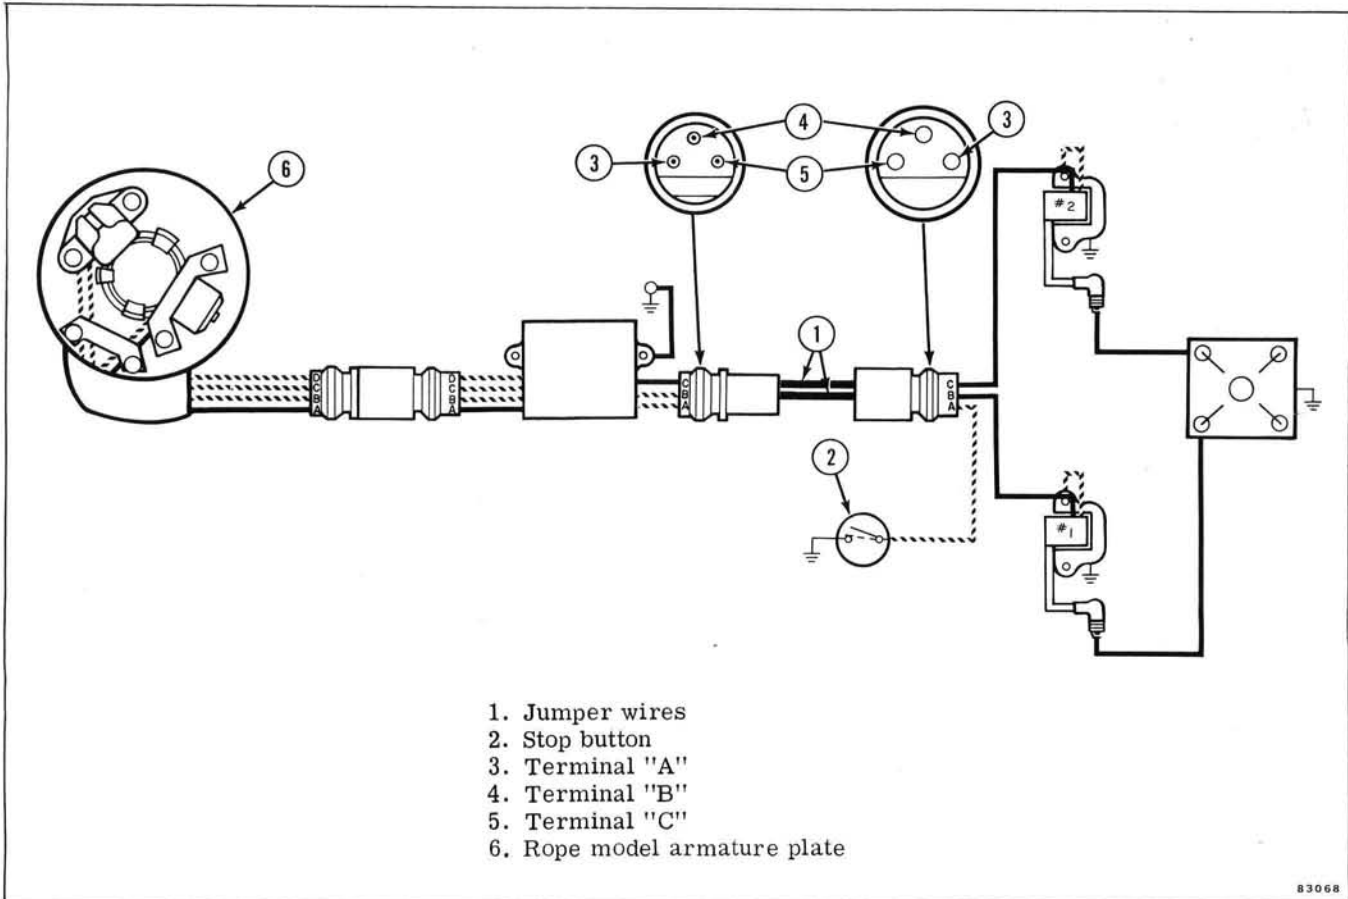

Figure 4-16. Stop Button Elimination Test
b. Insert a jumper wire between the "B" terminals of the three wire connector. See Figure 4-16.